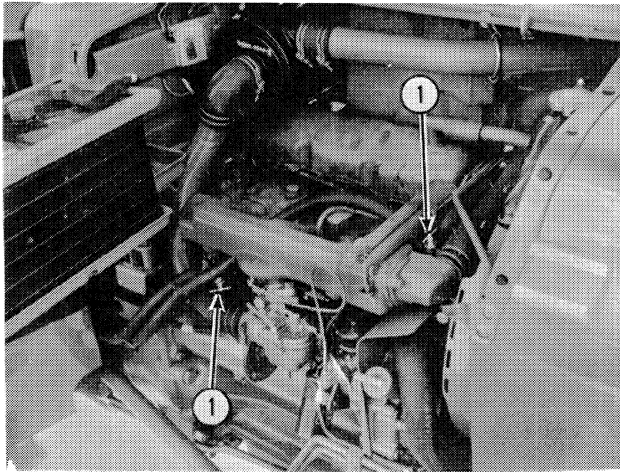

Figure 6
NOTE: Shut off the two heater hose valves at the engine (1), Figure 6, in hot weather to minimize heat in the cab.